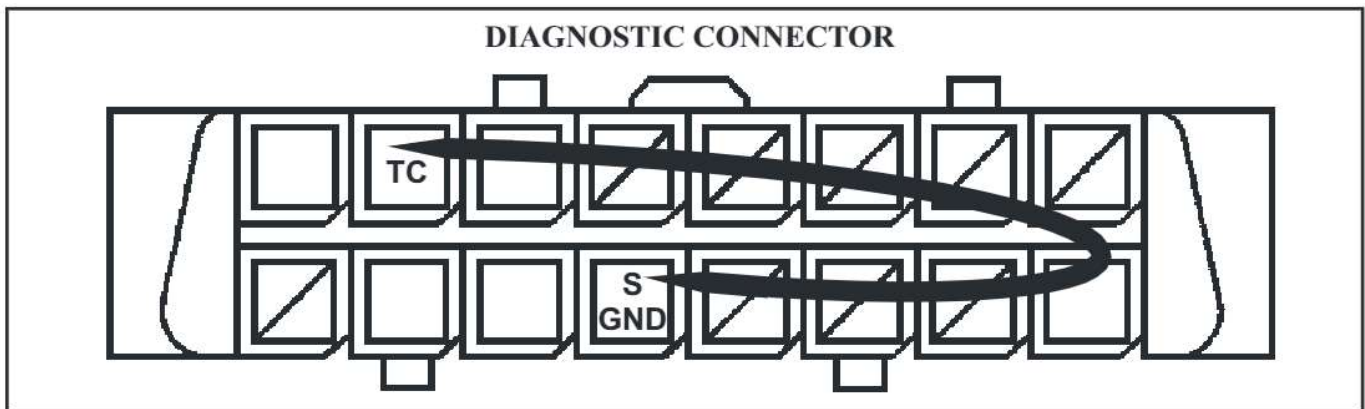

Figure 72
- 1 - Using a jumper lead, jump diagnostic connector terminals TC and SGND as shown below in Figure 72.